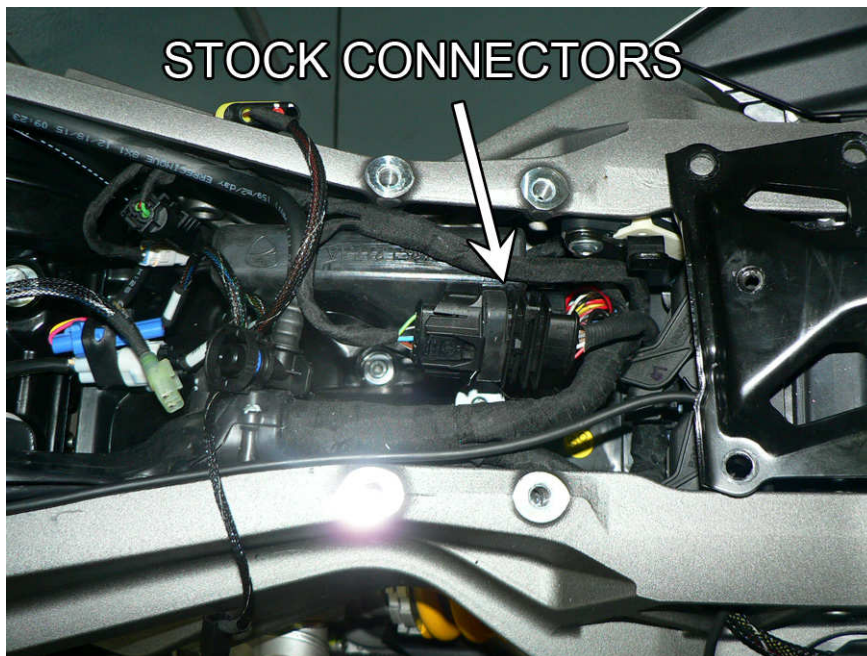

Fig.6
9. Locate and disconnect the black 4 pin connector of the front cylinder's O2 sensor, placed on the left side near the spark plug (**Fig.6**).